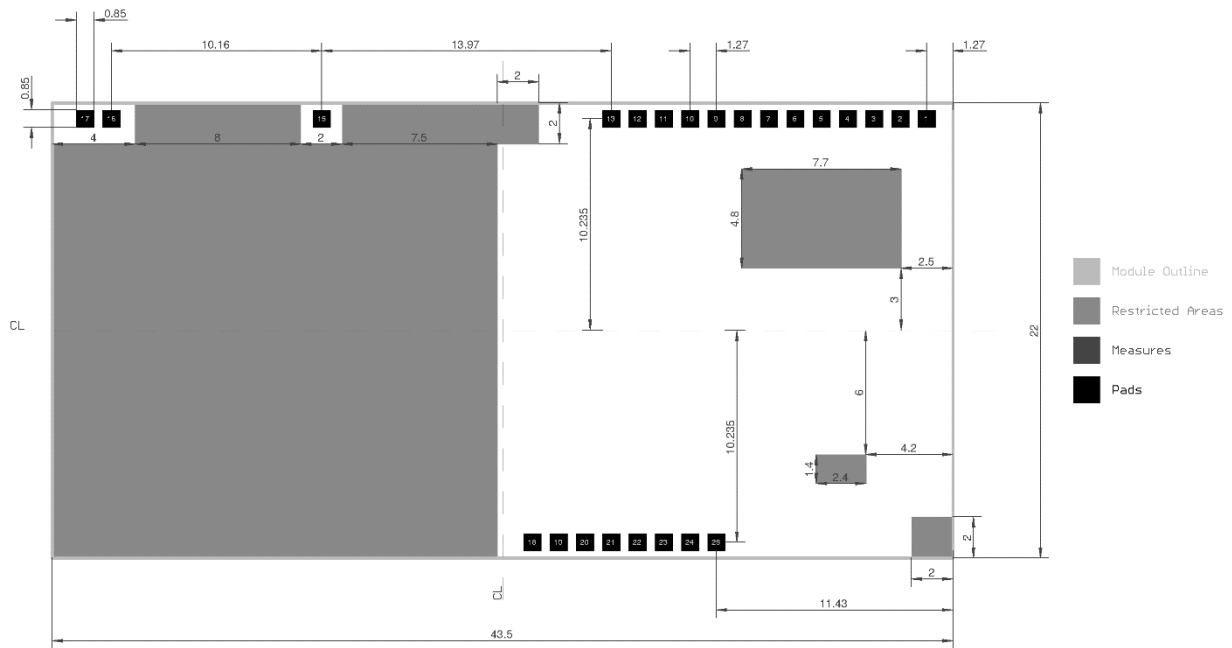

Figure 5 Recommended Footprint
5. The drawing in figure 5 shows the top view on the footprint (as if you look through the module).